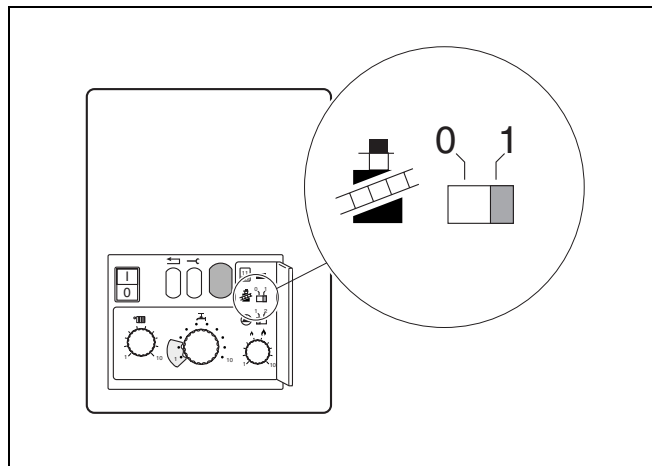

fig. 32 Chimney sweeper switch
- Move the chimney sweeper switch (fig. 32) to position "1".